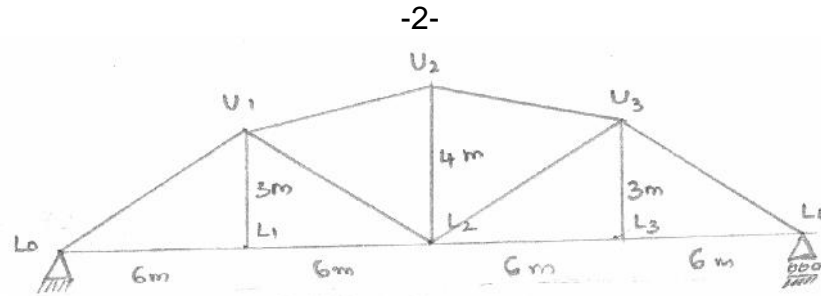

Fig. 3
12. Construct the influence line diagram for forces in the members  $U_1L_1$ ,  $L_1L_2$  and  $U_1L_2$  for the truss shown in fig. 3 Hence calculate the forces in these members due to a dead load of 20 KN/m and moving live load of 30 KN/m which its longer than the span.